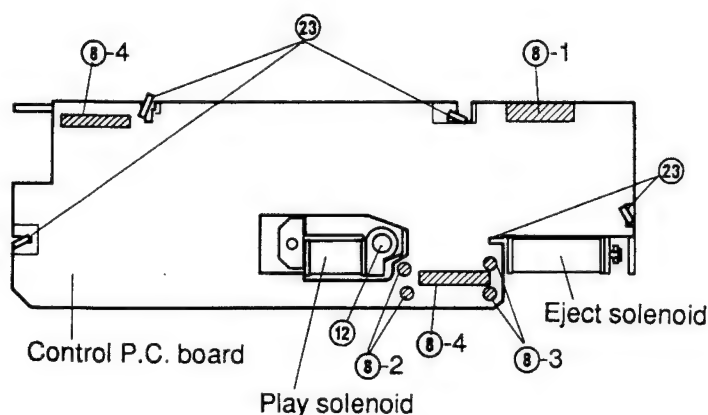

Figure 11
- (2) Remove solder ⑧-1, and remove the parallel wire (5P) from the control PC board as shown in Figure 11.
- (1) Remove the two solders (8-2) as shown in Figure 11.
- (2) Remove one screw (12) and remove the solenoid as shown in Figure 11.
- (3) Mount the new solenoid following the removal steps in the reverse order.
- (1) Remove two solders (8-3). Take care not to lose the tube that protects the wire. (Refer to Figure 11.)
- (1) Remove seven solders ⑧ and remove the three parallel wires and the wires of the eject solenoid and of the play solenoid as shown in Figure 11.
- (2) Remove the claws ②③ and remove the PC board as shown in Figure 11.
- (3) After replacing the old PC board with a new one, mount it following the removal steps in the reverse order.